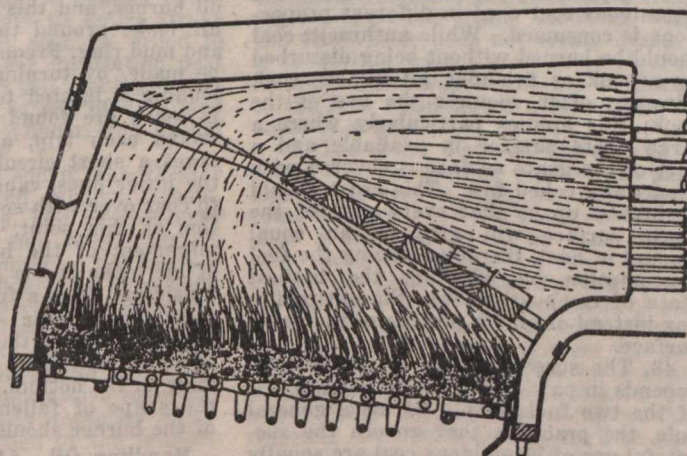

Fig. 10.
31. Fig. 10 shows the application of a